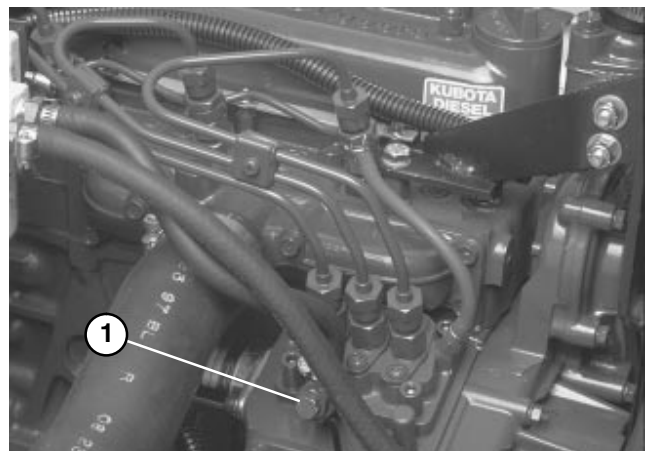

Figure 30
4. Open the air bleed screw on the fuel injection pump (Fig. 30) with a 12 mm wrench.